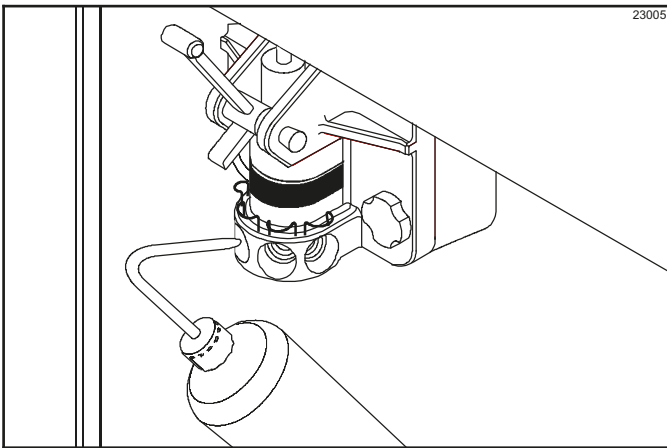

Figure 6-47
12. Fill the squeeze bottle with cleaning/sanitizing solution. With a pail beneath the door, insert the tube end of the squeeze bottle into the syrup valve retainer holes and the syrup port. Squeeze the bottle firmly. This action will force solution out of the adjacent port and down around the spinner. This procedure should be performed for at least 10 seconds per port. (See Figure 6-47.)